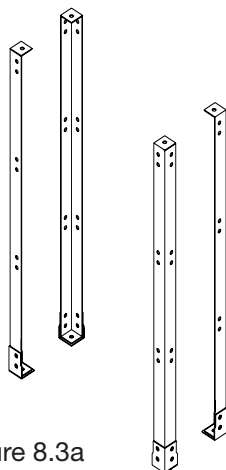

Figure 8.3a
- This rack has 4 corner frames to which front supports, rear supports, side supports, top cover and cross braces will be fastened to. See Figure 8.3a.